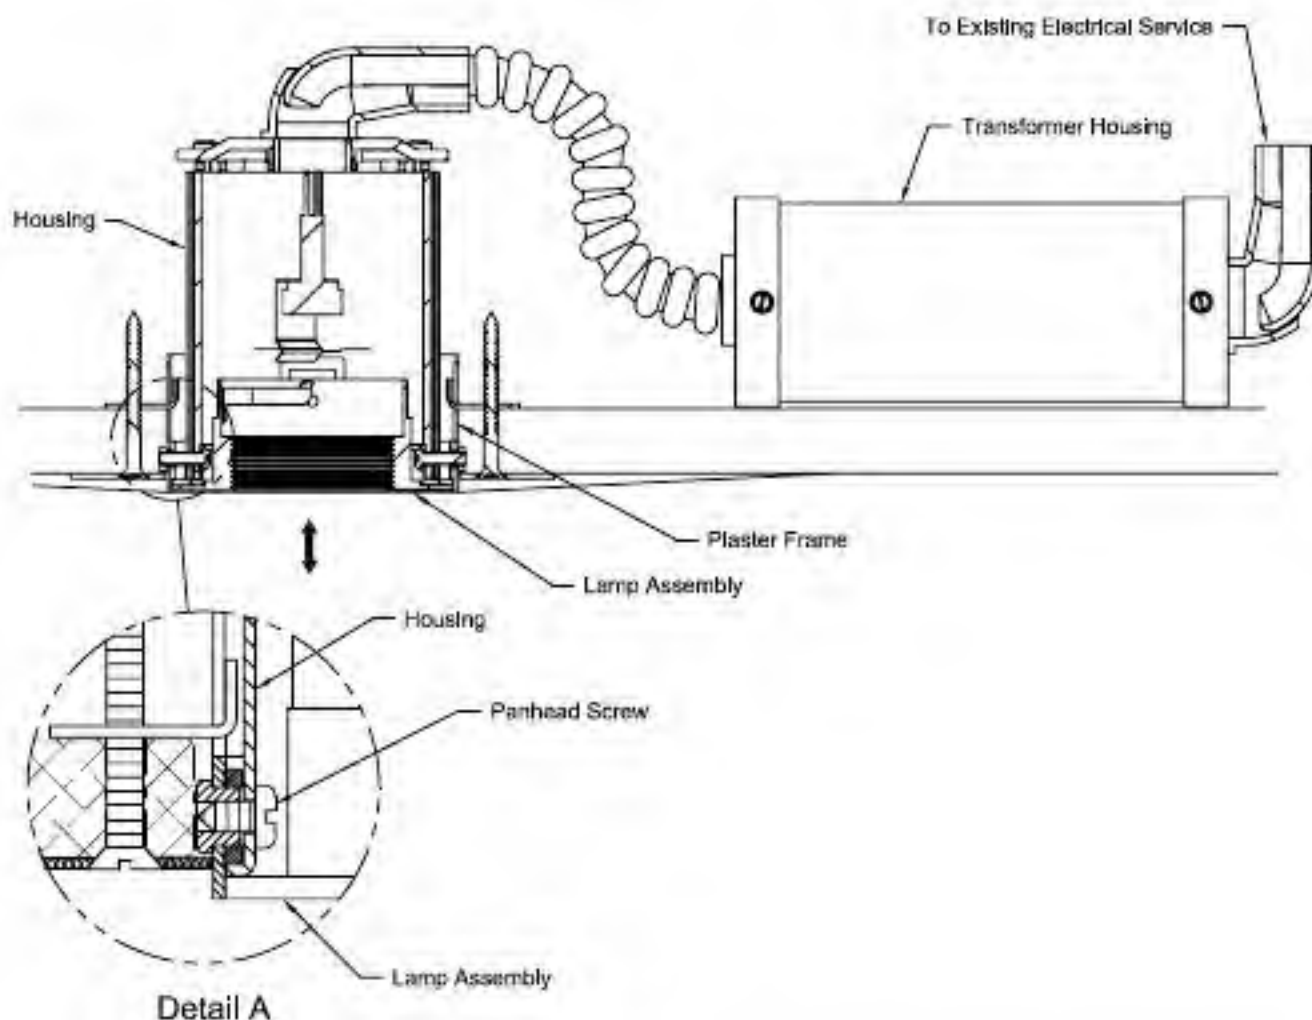

Figure 4
3. Remove two (2) Short Panhead Screws from inside of Housing/Plaster Frame Assembly. See Fig. 4, Detail A. Retain Screws for re-installation.
5. Rotate Transformer Housing 90° and, with it resting on inside of Ceiling, push to side to clear Plaster Frame in Ceiling. See Fig. 4.
1. Insert Housing Into Plaster Frame and retain to Plaster Frame using two (2) Short Panhead Screws removed earlier. See Fig. 4, Detail A. Do NOT overtighten Screws!
2. Install Lamp Assembly Into Housing until it Seats In Housing. See Fig. 4.